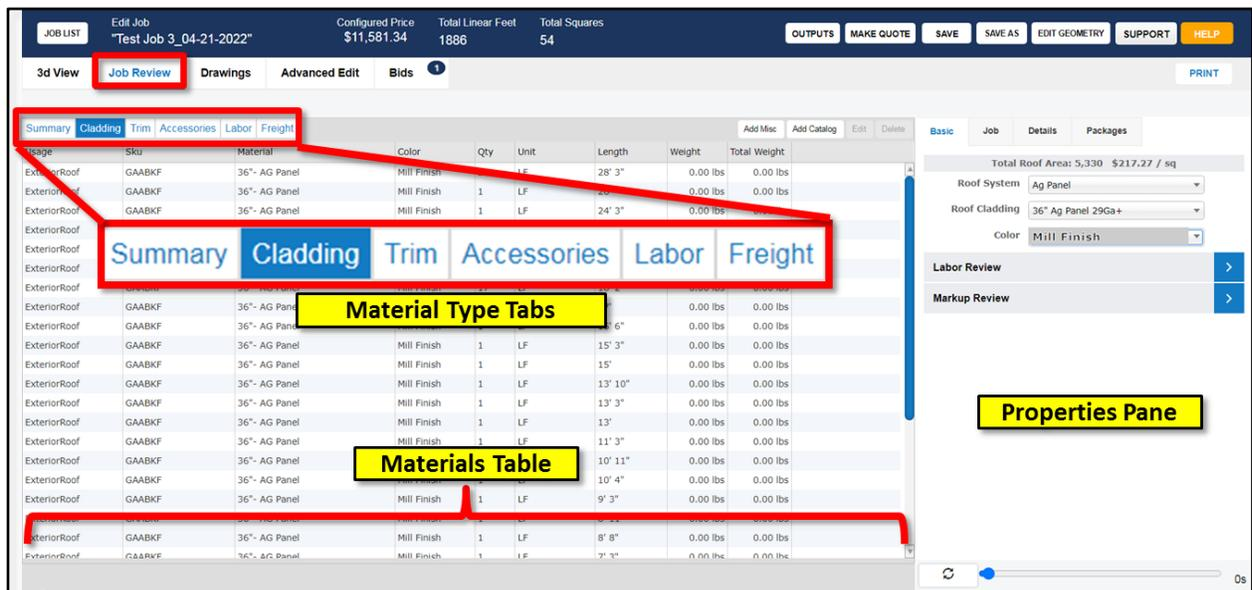

Figure 11: The *Edit Job* page in *Job Review Mode*.
Figure 11 below highlights some of the key areas of interest on the *Edit Job* page in *Job Review Mode*.
- **Materials Tabs** – The six *Materials Tabs* allow the user to select the specific category of materials or services to be reviewed. **NOTE** – The *Summary* tab is only visible to users who have been granted the “*See Pricing*” permission by their System Administrator. (See Figure 11 on the following page.)